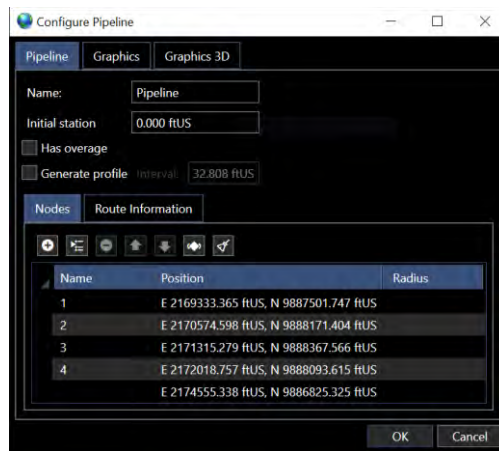

FIGURE 9-13 CONFIGURE PIPELINE WINDOW
2. Click **Edit** to open the Configure Pipeline window (see Figure 9-13)